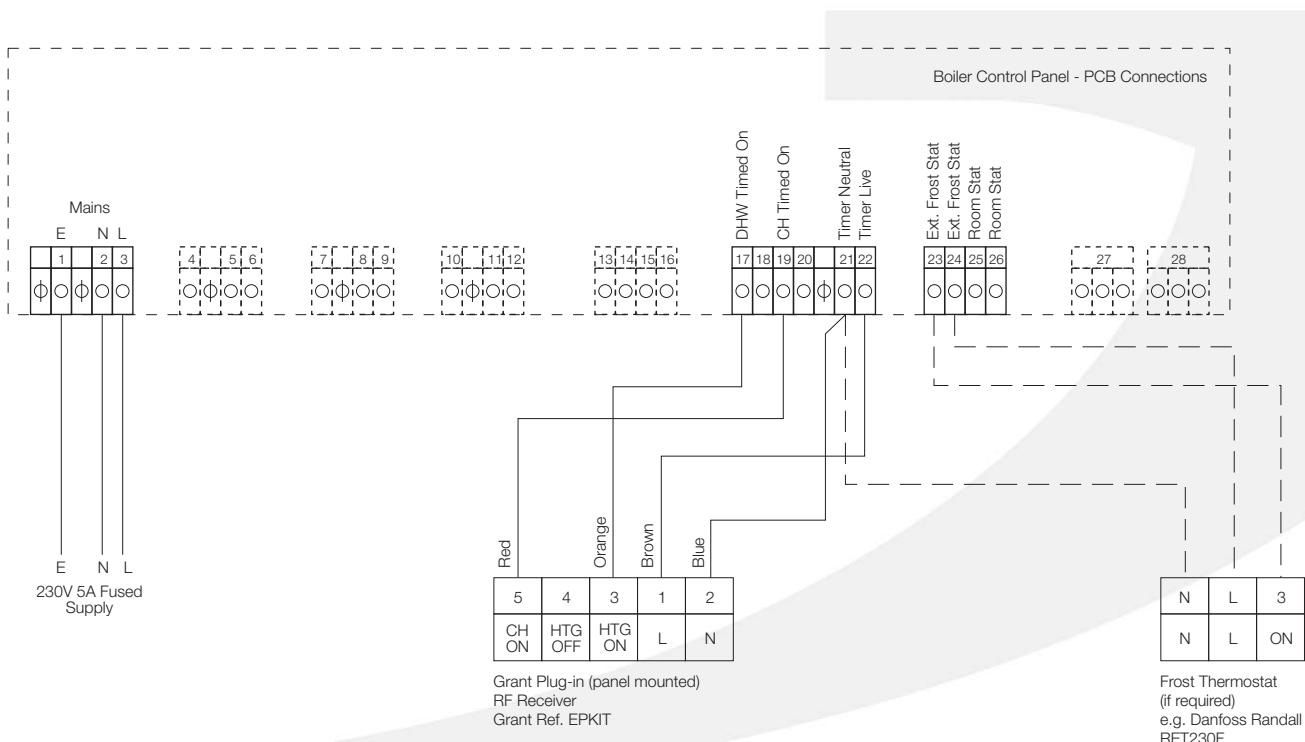

Figure 8-8: Connections for the Grant wireless 2-channel Programmable room thermostat (RFTKIT)
5. Connect four wires provided to terminals of FM/2 Receiver unit - refer to Figure 8-8.